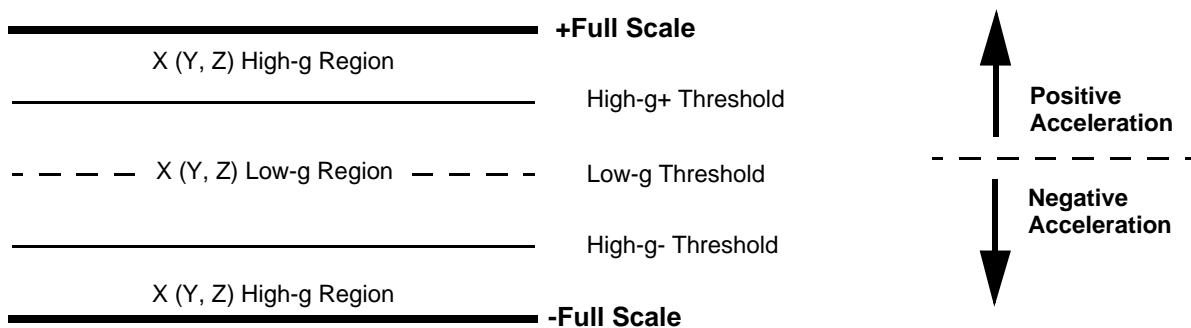

Figure 5. Freefall Condition
- For Motion detection the condition is > Threshold (Figure 5)
- For Freefall the condition is < Threshold (Figure 5)